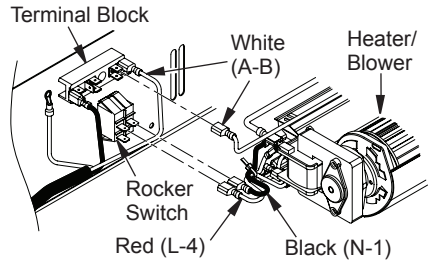

Figure 26 - Connecting Heater Wires
14. Connect black heater wire to terminal marked 'N-1' on heater power switch (see Figure 26, page 12). *Note:* On alternate style heaters white and black wires are connected common to terminal 'N-1' (see Figure 27, page 12).
15. Connect red heater wire to terminal marked 'L-4' on heater power switch (see Figure 26 or 27).
16. Connect one end of black jumper lead, provided in kit, to power connection marked 'D' on terminal block and other end to switch terminal marked 'L-5' (see Figure 26).